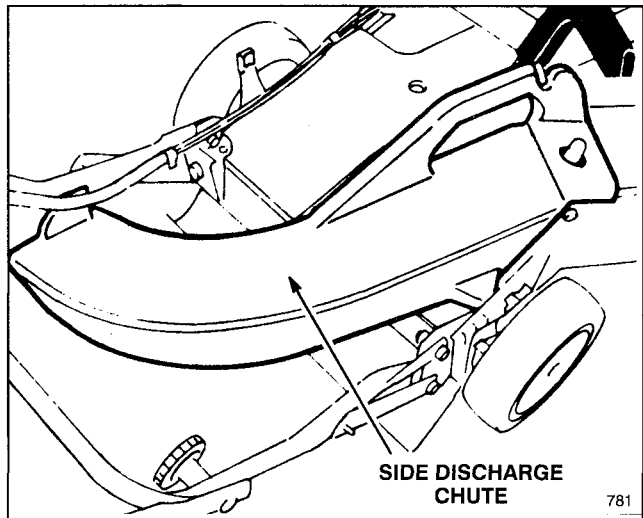

Figure 32
2. Side Discharge Kit, Model 59189—Install discharge tunnel and rear mounting side discharge chute to convert Recycler® II mower to a side discharge mower (Fig. 32). Includes discharge tunnel plug.